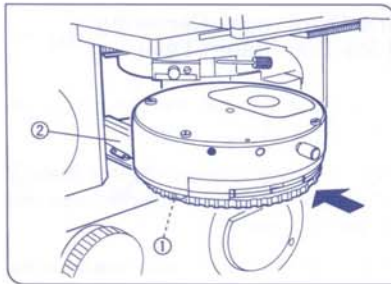

Fig. 4
## 2 Mounting the Fluorescence Mirror Cube Housing (IX-RFAC) (Fig. 4)
1. Using the Allen screwdriver, loosen the clamping screw ① of the microscope's mirror cube housing dovetail. Remove the housing dummy.
2. Positioning the mirror cube housing dovetail ② as shown in Fig. 4, insert the mirror cube housing as far as it will go into the microscope's mirror cube housing compartment.
3. Using the Allen screwdriver, firmly tighten the clamping screw ① of the microscope's mirror cube housing dovetail.